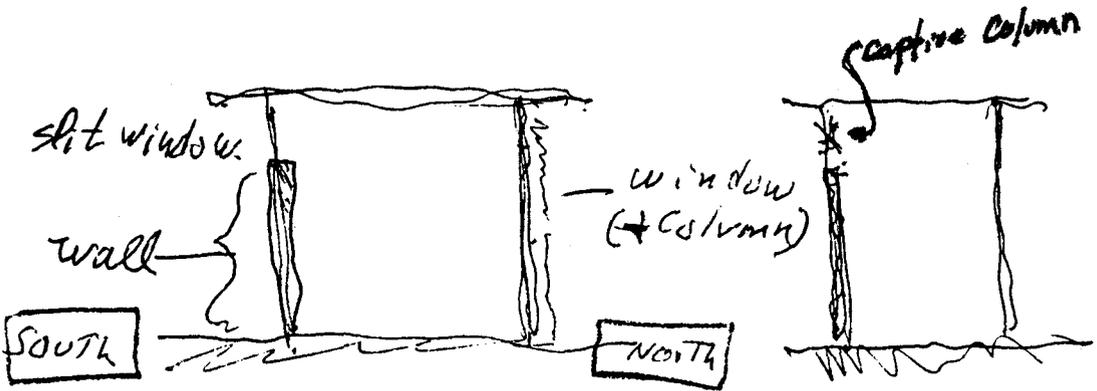

Figure 4
**Degenkolb:** Right. As a matter of fact, any resistance it gives, since the quantity of resistance is uncertain, may do more harm than good because it may introduce stresses, or changes in the flow of stresses, and cause failure. One example that I used in the Guatemala talks—this has shown up in practically every earthquake—you have a little building on two rows of columns—typically a school. This is a cross section through it, with a roof of some type (Figure 4). In the northern hemisphere, the north side would have all windows and columns, and on the south side, because of the sun, you would have a solid wall up to the slit windows at the top. You've seen these schools all over the state—they're common. The engineer could design that as a building with just the columns and without the wall, and it would be strong enough to take the earthquake.